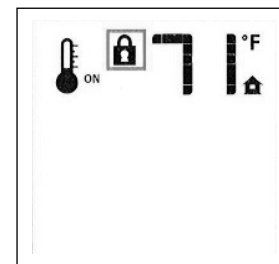

Figure 82. Lock ON.
- To activate the Lock, press the Mode key and UP Key at the same time. Fig. 82.